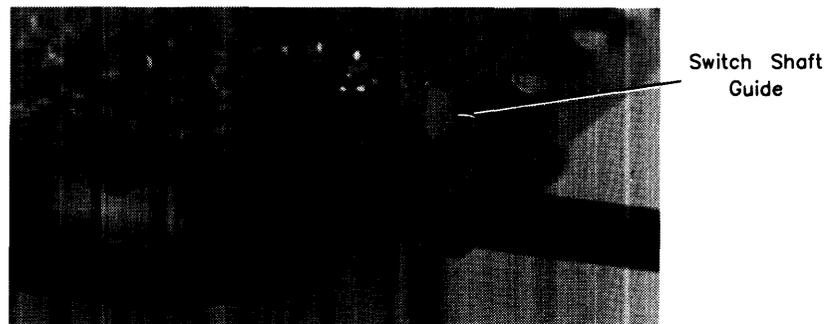

Figure 2-7. ON-OFF Switch Shaft Guide Removal
5. Remove the switch shaft guide by pinching the tab shown in Figure 2-7 and removing the guide.